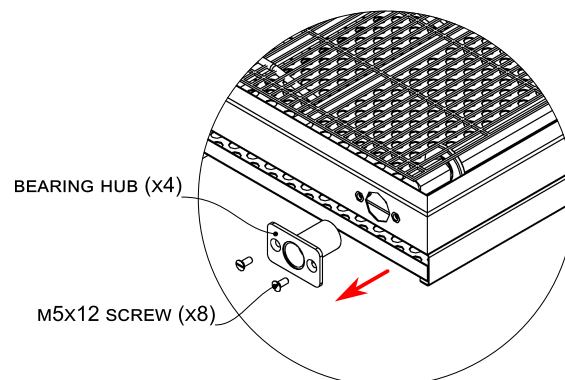

Figure 15
10. Remove M5x12 screws and remove bearing hubs, see Fig. 15.